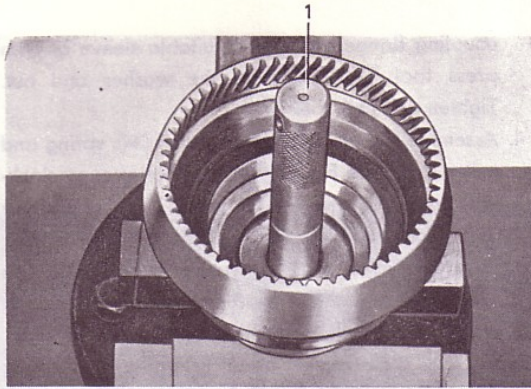

Fig. 18. Fitting needle bearing, output shaft
1. Place the front circlip for the bearing (28) in the roller casing. Press in the bearing with drift SVO 2413.
2. Press the support bearing (31) for the gearbox mainshaft in the output shaft (25) with drift SVO 2417, see Fig. 18. Press the front bearing on the output shaft with drift SVO 2412.